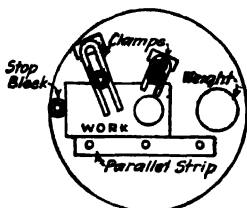

Fig. 18-4. Faceplate with a flat piece of cast iron clamped to it.
**Typical Faceplate Setups.** Figure 18-4 shows a flat piece of cast iron clamped to the faceplate located by means of a parallel strip and stop block. This piece has been indicated to drill and bore